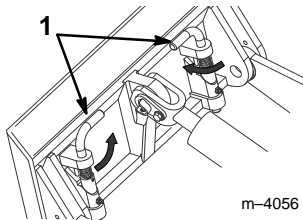

Figure 15
8. Engage the quick attach pins (Fig. 15).